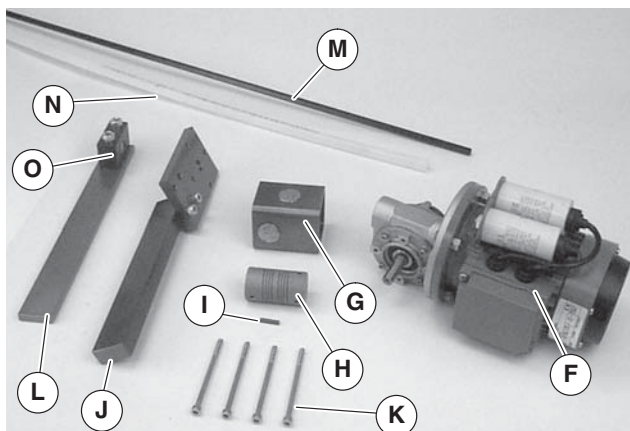
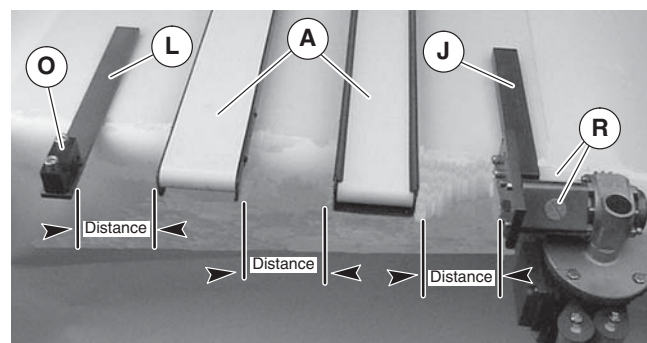

Figure 2
Figure 8
1. Gather components (Figure 2)
- Measure distance between motor mounting plate (Q) and bearing block (O).
- Cut hex shaft (Figure 2, item M) to measured distance plus 2-1/8" (54 mm).
- Align conveyors between gearmotor support assembly (Figure 8, item J) and bearing support assembly (L).
Do not secure the conveyors (Figure 8, item A) to mounting surface.
- Cut shaft cover (Figure 2, item N) into pieces to match each distance (Figure 8) minus 1/16" (1.5 mm).
- Remove inspection plugs (Figure 8, item R).